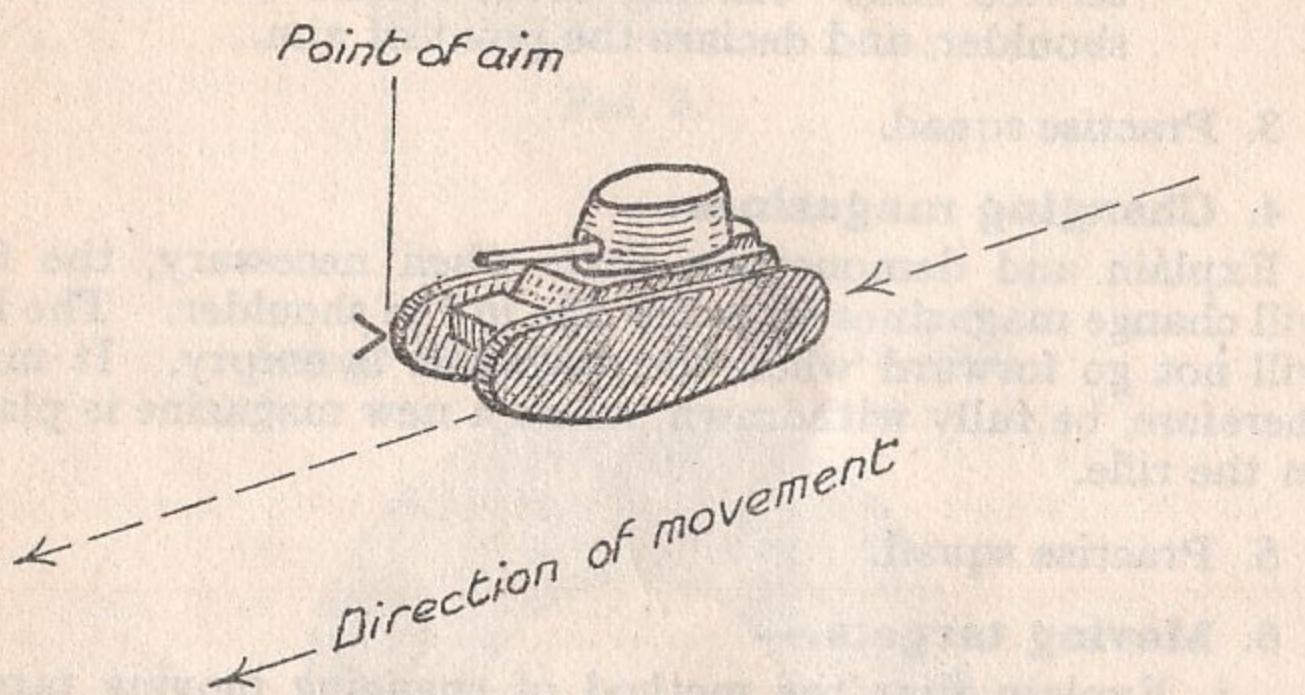

Fig. 7.
- (b) When moving diagonally across the front, i.e. closing in on your position, less "lead" is required and aim should be taken at the front edge (see Fig. 7).